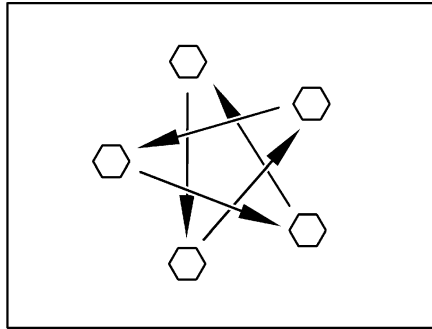

Fig. 385 Tighten the wheel nuts or wheel bolts cross-wise
- Check regularly that the wheel nuts or wheel bolts are firmly seated. Re-tighten the wheel nuts or wheel bolts of a changed wheel cross-wise (Fig. 385) after 50 km (30 miles).
- ▷ Tighten the wheel nuts or wheel bolts cross-wise (Fig. 385).